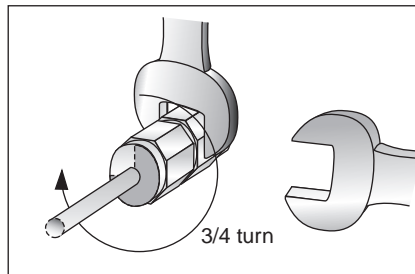

Figure 3-3. Tightening Swagelok Fittings
- While holding the inlet body tightly with a backup wrench, tighten the nut about a $3/4$ turn past finger-tight, as shown in Figure 3-3.